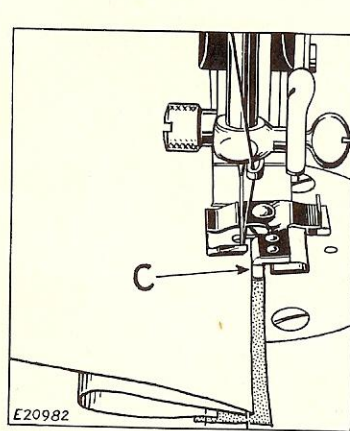

Fig. 12. Invisible Hem with Seam Binding Being Blind Stitched
- E. Place the bound edge under the attachment with the fold against the guide C, as shown in Fig. 12. (Adjust guide C according to the material to be blind stitched, as instructed on Page 3.) Then lower the presser bar and commence sewing, carefully guiding the fold of the garment against the guide C so that the straight stitching will be made **only** in the seam binding and the tacking or sidewise stitches will be made in the fold of the garment, as shown in Fig. 13.